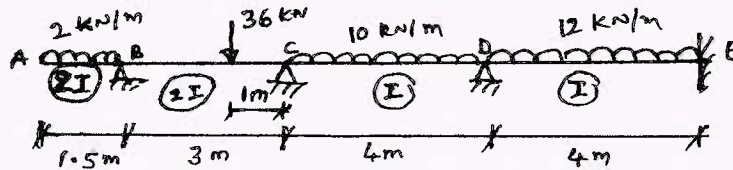

Fig Q1
- 1 Analyse the continuous beam shown in Fig Q1 by slope deflection method. Draw bending moment diagram and shear force diagram.